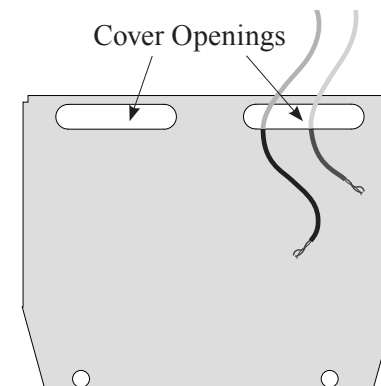

Figure 11– Terminal Connection Cover openings
- Insert the Loudspeaker Hookup Cable through the Cover Opening of the Output Terminal Cover (Figure 11). Choose the opening that will be closest to the Output Terminal Posts you will be connecting